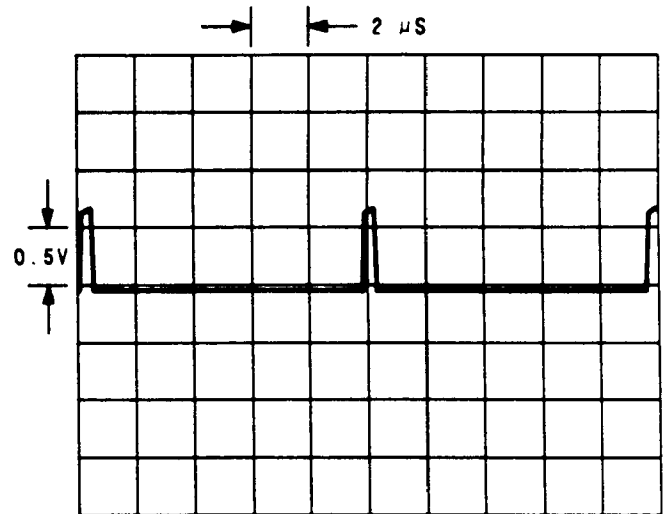

**Figure 9.** Oscilloscope Display of TP11, W3 in position W3B (service position), Signal Generator's frequency 960 MHz.
4. Verify that the waveform in Figure 9 is correct.